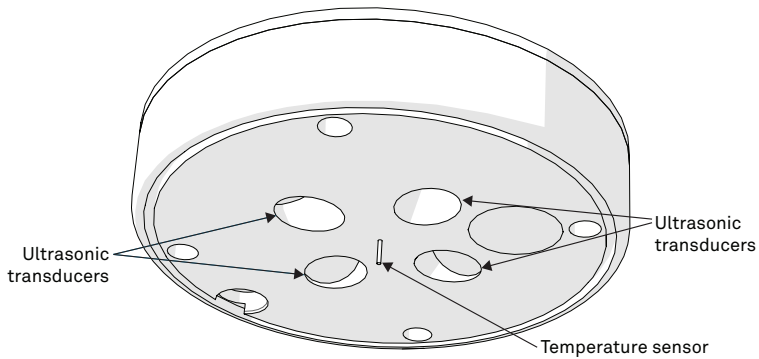

Figure 19 Temperature needle and ultrasonic transducers
- **DO NOT** touch the temperature sensor needle (Figure 19).
- Avoid more than light pressure on the ultrasonic transducers (Figure 19).
2. Make sure nothing is obscuring the temperature sensor or the ultrasonic transducers shown in Figure 19 (cobwebs, leaves, wasp nests, etc.).
- c. Ultrasonic transducer openings (Figure 19)
NOTE: Do not allow water to enter the ultrasonic sensors (Figure 19). Water may corrode the metal parts inside the sensors and ruin them. Do not touch the temperature sensor when cleaning because it is very delicate and can be damaged if pushed into the ATMOS 41 body.